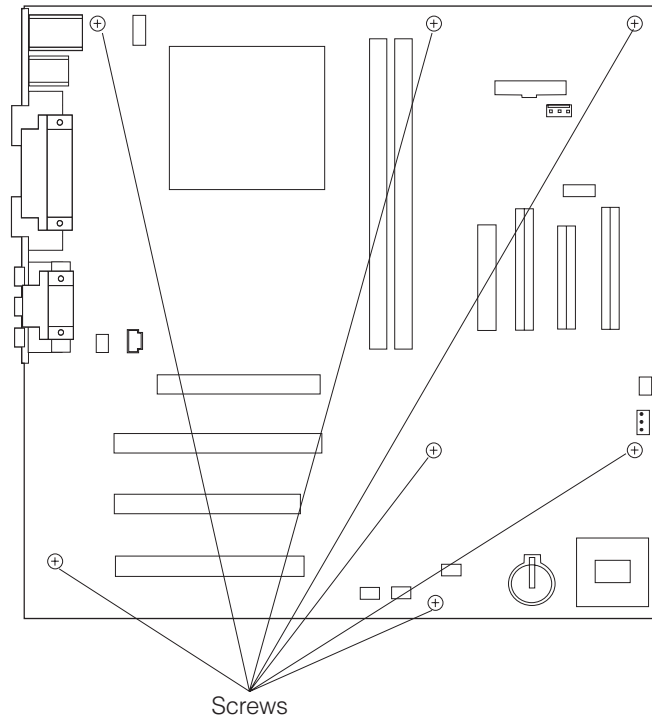

Figure 5-1. Screw Locations
6. Remove the seven screws that secure the board (see Figure 5-1 on page 5-5).